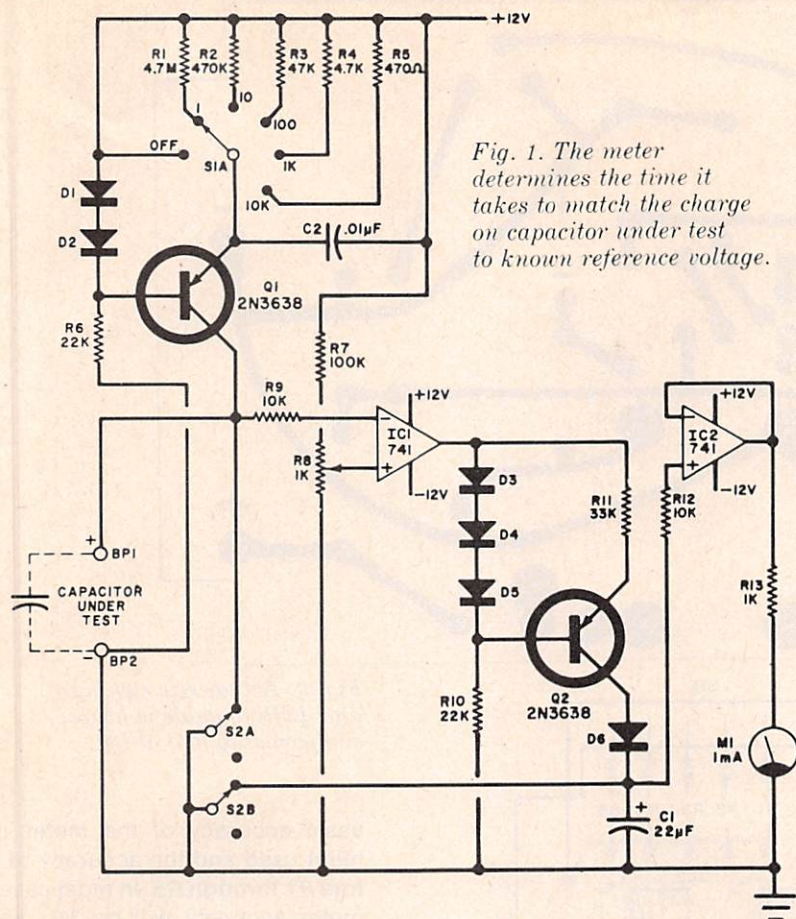

Fig. 1. The meter determines the time it takes to match the charge on capacitor under test to known reference voltage.
**How It Works.** As shown in Fig. 1, D1, D2, R6, Q1 and one of the resistors (R1 through R5) selected by S1A provide five decades of constant current. With S2 in the position shown in Fig. 1, this current is shunted to ground via S2A. When S2 is placed in its alternate position, the constant current will be pumped into the unknown capacitor connected across BP1 and BP2, forcing it to charge in a linear fashion.